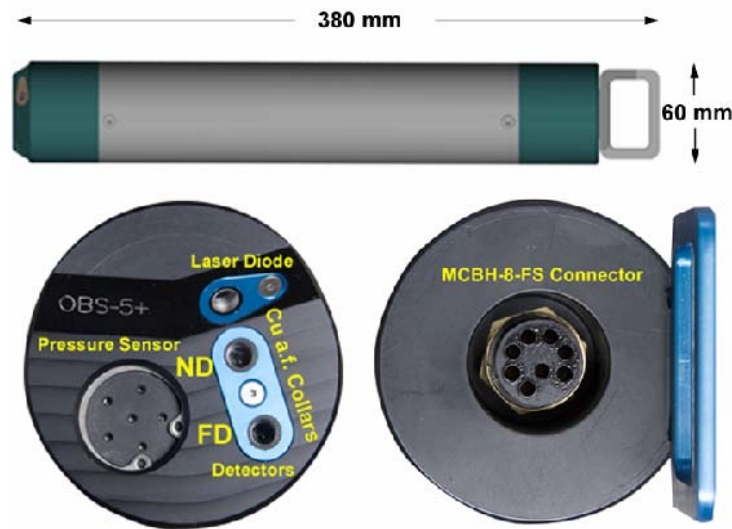
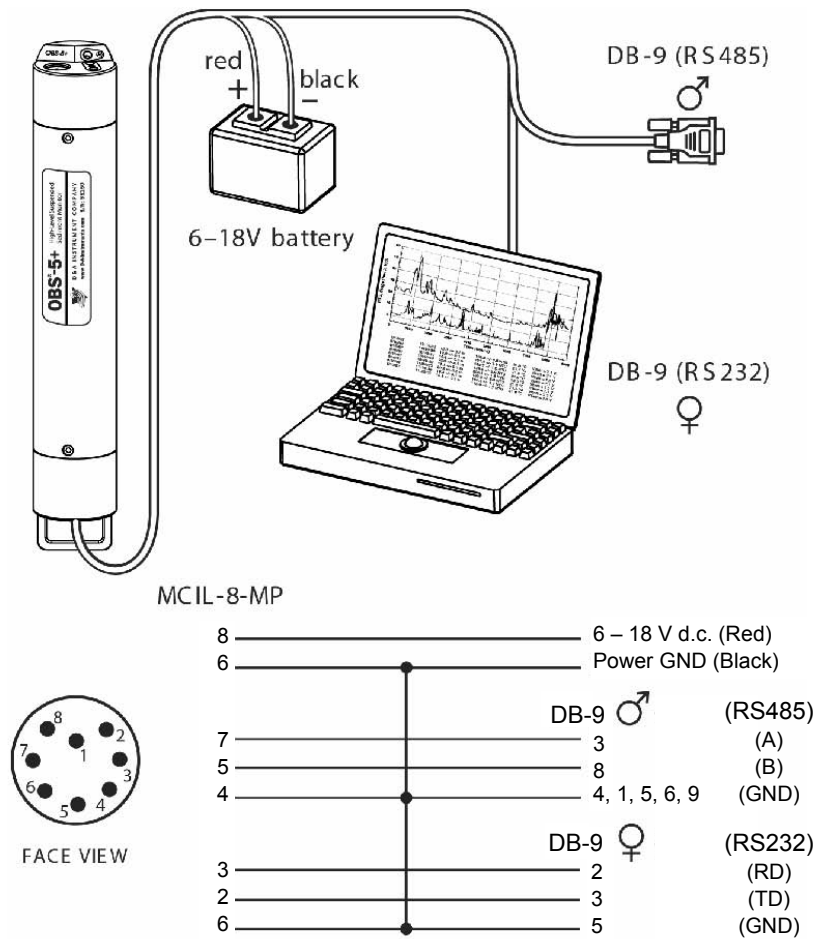

FIGURE 4-1. Dimensions (top), sensor endcap with copper antifoulant (Cu a.f.) collars (left) and connector endcap (right)
FIGURE 6-1. Electrical connections
FIGURE 4-1 shows the dimensions of the OBS-5+, the sensors in the sensor endcap, and underwater connection. Detailed specifications are provided in Section 5, *Specifications*. The OBS-5+ can be operated in Survey or Cyclic Modes. In Survey Mode, the unit sends data via RS-232 or RS-485 to a PC at two hertz, and in Cyclic Mode, it logs as many as 200,000 scans of time, date, depth, and  $g\ L^{-1}$  in flash memory (one sample per hour for 23 years). When sampling continuously, the unit will run about 125 hours on three C-size alkaline batteries in 20°C water (about two weeks of eight-hour survey days). When using the instrument for surveys, the data are captured by a PC running the *OBS-5+ software*. Pressure is measured with a silicon strain-gauge pressure sensor and the depth of the instrument is calculated from water density and barometric pressure entered by the operator.
The OBS-5+ will usually be towed with a cable harness for surveys. The serial cable can tow the OBS-5+ without a depressor weight or vane as long as the connector is strain relieved. Strain relief can be provided by attaching the cable to the stainless steel housing (FIGURE 4-1) with a cable grip and a length of 3 mm (1/8 in) wire rope. Install a cable clamp with a 0.5 m wire rope to the serial cable, and clamp the wire rope to the pressure housing with two stainless steel hose clamps, providing a small loop of slack cable to absorb towing forces. The unit can be powered with an external battery, as shown on FIGURE 6-1, and the serial output can be transmitted by either RS-232 or RS-485 protocols. The latter protocol is recommended for cable lengths greater than 25 m. An RS-485/232 serial converter is provided with each unit. An RS-232 to USB converter is an available option.
- 4) Connect the OBS-5+ to a PC with the test cable (FIGURE 6-1).
- 1) Remove dummy plug and connect OBS-5+ to PC with test cable (FIGURE 6-1).